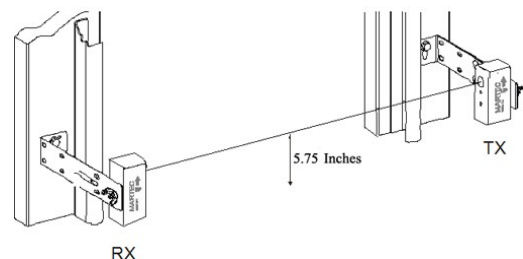

Figure 2 - Installation of PHOTO062 or PHOTO064
3. **For PHOTO062:** Attach the transmitter and receiver to the L shape bracket securely (orienting the lens upward) using the wing nut provided (don't over tighten). Confirm that the center of the lens is 5-3/4" (14,6 cm) above the floor, as seen in Figure 2.
For PHOTO064: Use the four (4) 8-32 x 1/2" self-threading screws (provided) to attach the beam enclosures to the mounting brackets. Then, mount them to the L brackets securely (orienting the lens upward) using the wing nuts provided (don't over tighten). Confirm that the center of the lens is 5-3/4" (14,6 cm) above the floor, as seen in Figure 2.